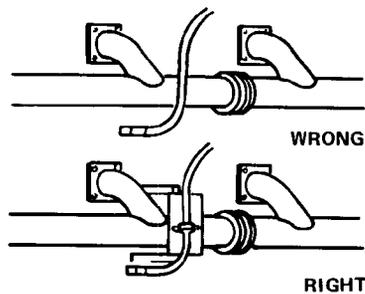

FIGURE 12
- 5.2.8.2 Shield from Temperature: Exposure to unusually high temperature can drastically shorten hose life. Route hose assemblies away from hot manifolds or other high outside temperatures wherever possible. If this is not possible, a protective sleeve or baffle plate should be installed to protect the hose. (See Fig. 12).